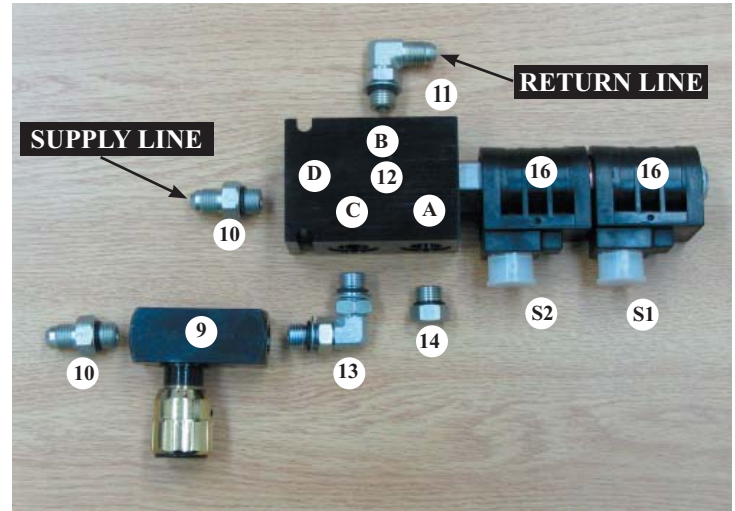

Figure 2.4 -Hydraulic Valve & fittings
Refer to *Figures 2.4 & 2.5* for this step.
1. Assemble the needle valve assembly as per *figure 2.4*. The parts are as follows; (#14)-6MBP in port A, (#11)-6MB-6MJ90 in port B, (#13)-6MB-6MB90 (#9)-6 ORB Needle valve, (#10)-6MB-6MJ in port C, (#10)-6MB-6MJ in port D & (#16)-Valve Solenoids (#12) Hydraulic Valve.